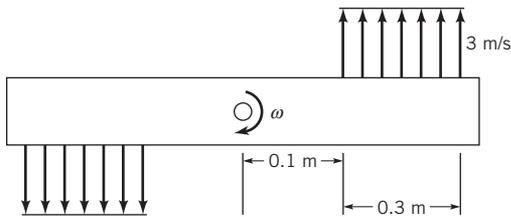

FIGURE P11.3
11.3 Uniform horizontal sheets of water of 3-mm thickness issue from the slits on the rotating manifold shown in Fig. P11.3. The velocity relative to the arm is a constant 3 m/s along each slit. Determine the torque needed to hold the manifold stationary. What would the angular velocity of the manifold be if the resisting torque is negligible?